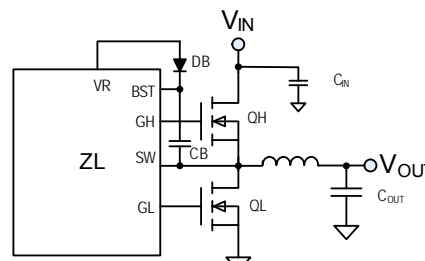

FIGURE 5. SYNCHRONOUS BUCK CONVERTER
Figure 5 illustrates the basic synchronous buck converter topology showing the primary power train components. This converter is also called a step-down converter, as the output voltage must always be lower than the input voltage. In its most simple configuration, the ZL6105 requires two external N-channel power MOSFETs, one for the top control MOSFET (QH) and one for the bottom synchronous MOSFET (QL). The amount of time that QH is on as a fraction of the total switching period is known as the duty cycle D , which is described by Equation 1:
The gate drive voltage for the high-side MOSFET driver is generated by a floating bootstrap capacitor, CB (see Figure 5). When the lower MOSFET (QL) is turned on, the SW node is pulled to ground and the capacitor is charged from the internal VR bias regulator through diode DB. When QL turns off and the upper MOSFET (QH) turns on, the SW node is pulled up to V_{DD} and the voltage on the bootstrap capacitor is boosted approximately 5V above V_{DD} to provide the necessary voltage to power the high-side driver. A Schottky diode should be used for DB to help maximize the high-side drive supply voltage.